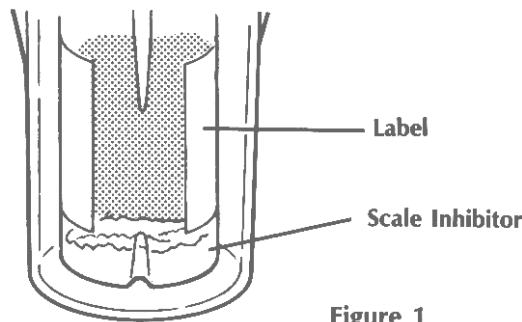

Figure 1
1. Examine level of scale inhibitor in IMF cartridge through pressure vessel. (Figure 1)